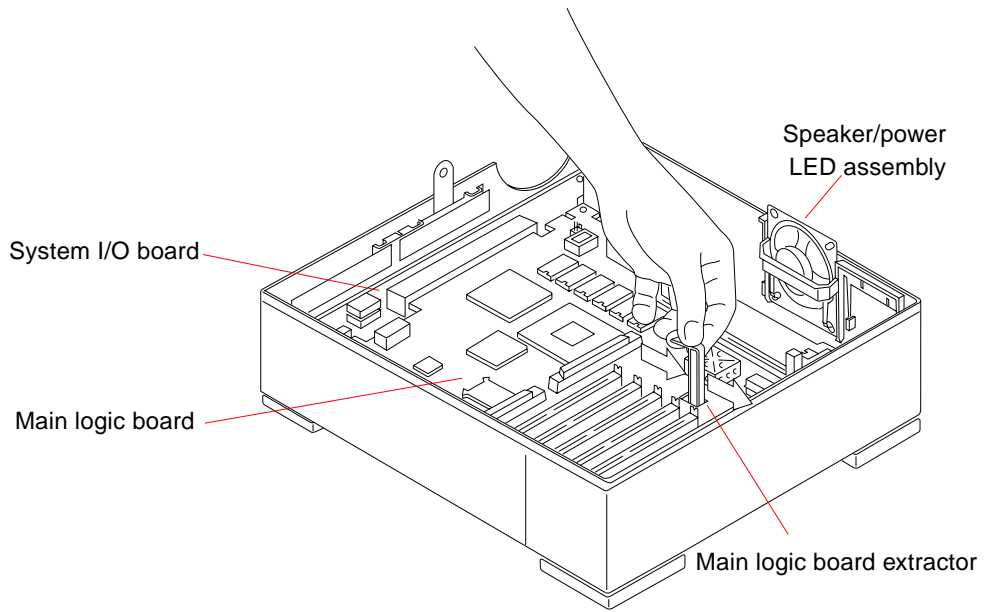

FIGURE 8-4 Extracting the Main Logic Board
1. Pull the main logic board extractor lever toward the front of the system unit to disconnect the main logic board from the system I/O board (see FIGURE 8-4).